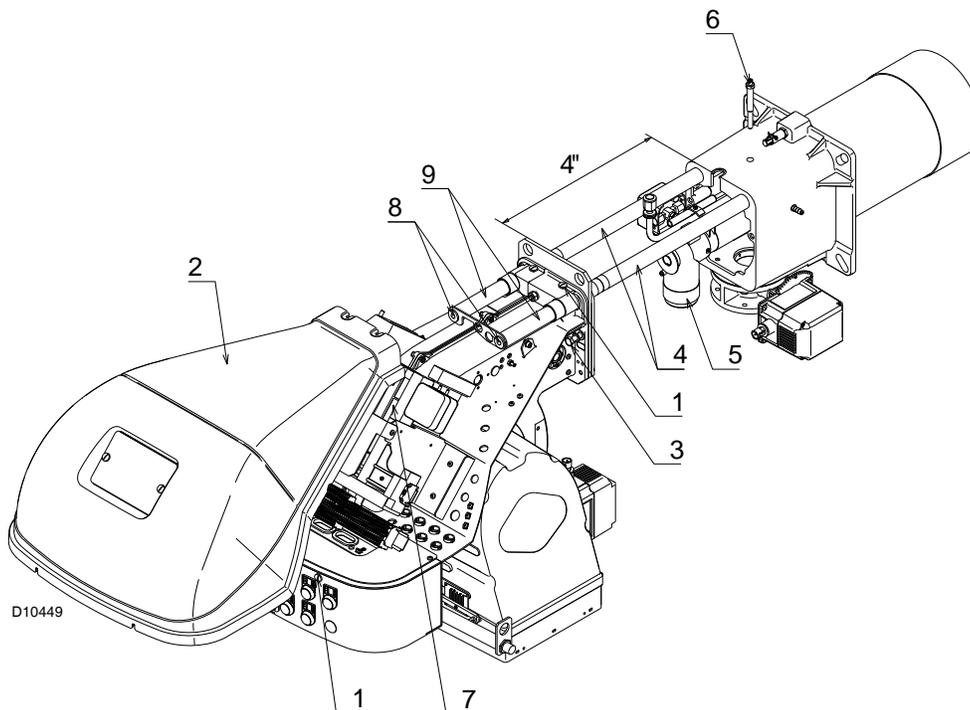

Fig. 38
- loosen the 4 screws 1) (Fig. 38) and remove the cover 2);